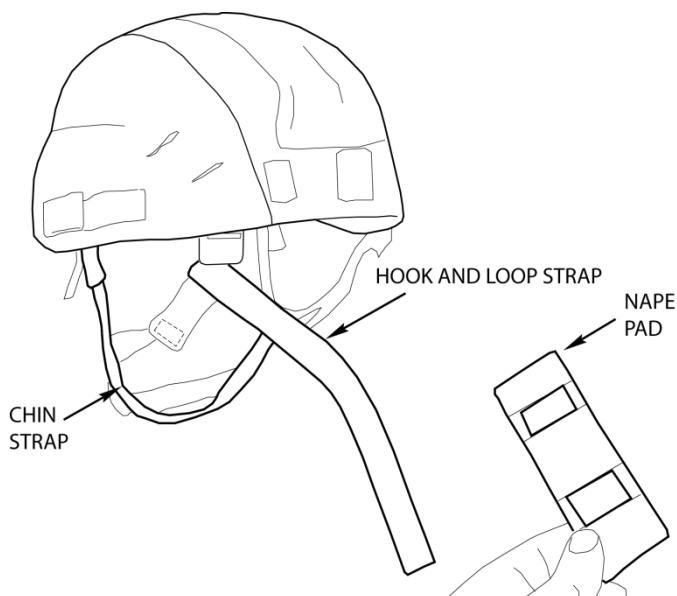

Figure 1. Remove Existing Nape Pad.
1. Detach the existing nape pad that comes with the retention system by unfastening the hook and loop strap that holds the nape pad to the chinstrap as shown in Figure 1.